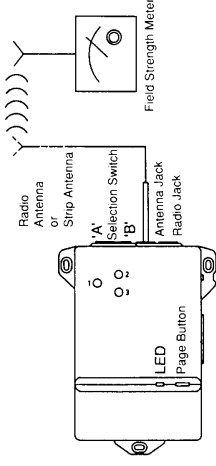

Fig. 1
- a) If you have installed the radio antenna, push the selection switch to "B" position. (see fig. 1)
- a) If you use a strip antenna, push the selection switch to "A" position. (See fig.1)